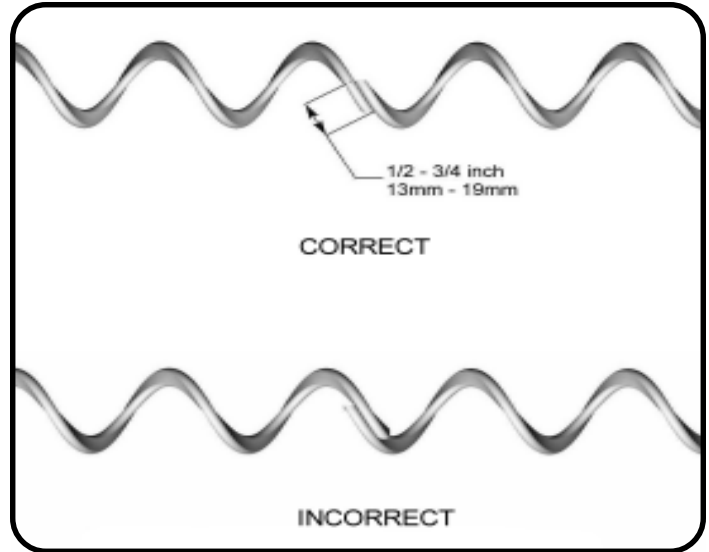

Figure 6
9. If necessary, the auger may be lengthened or repaired by brazing two sections of auger together. Weld surfaces should be 1/2-3/4 inches (13mm-19mm) long and the auger ends should be filed and cleaned. Use a bronze, flux coated rod and low heat to prevent the auger from warping. Clamp the auger in a bevel or V-groove to keep the auger sections aligned. See Figure 6 for auger alignment.